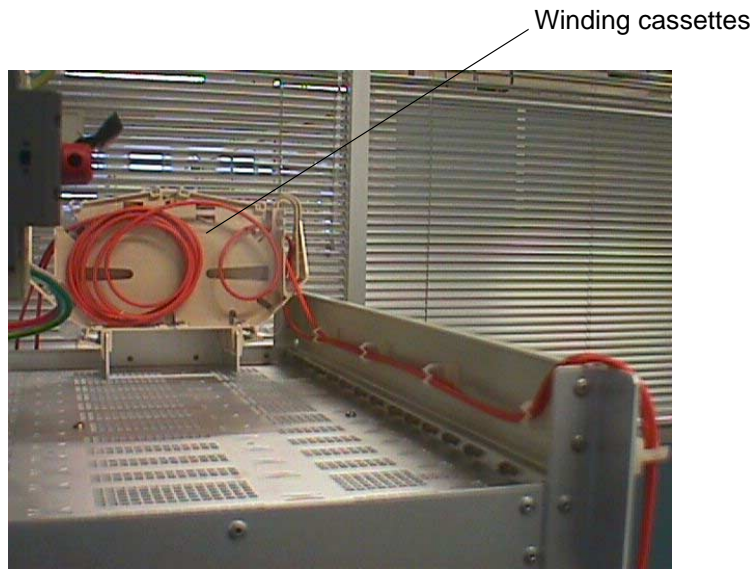

Figure 52 – DBS fiber optic winding cassettes
- Use a winding cassette when connecting one or more fiber optic cables of over 10 meters in length (cf. *Figure 52 – DBS fiber optic winding cassettes*).